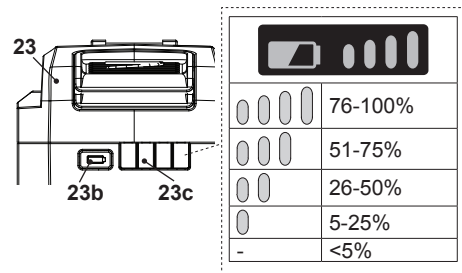

Fig. 15
The battery pack (23) is equipped with battery capacity indicators (23c) which are used to give an indication of the battery pack's remaining capacity. Press the battery capacity button (23b) to check battery capacity (Fig. 15). The LEDs will stay lit for approximately 5 seconds.